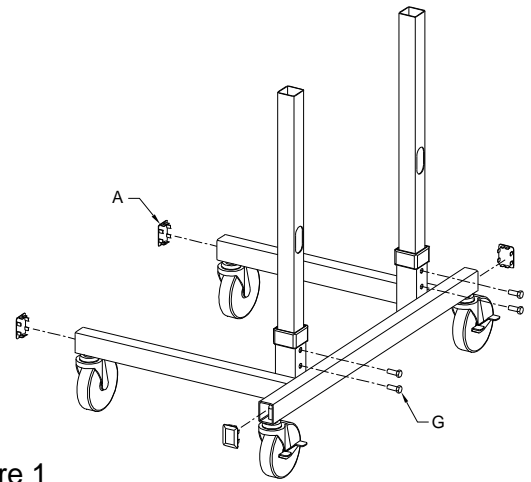

Figure 1
2. Insert the Caster stems into the Base. See Figure 1. Must go in straight.
3. Insert tube enclosures shown in Figure 1.
4. Insert two Columns into the Base and install the fasteners shown. See Figure 1. Leave loose at this time.